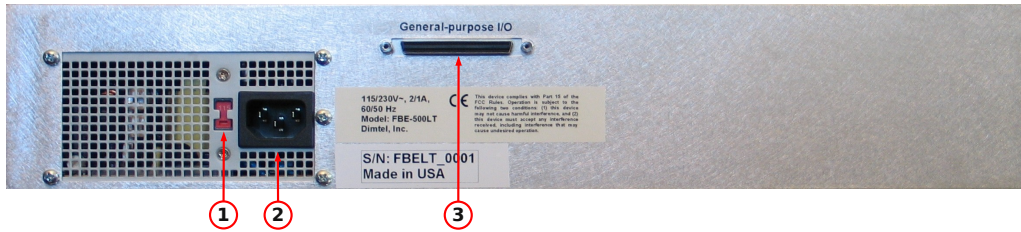

Figure 3: Rear panel features
WARNING: Before connecting power to the unit make sure the voltage selection switch (Fig. 3, item 1) is in the correct position (115 or 230 V).
1. Configure voltage selection switch (Fig. 3, item 1). Mains supply requirements for the FBE-476LT are listed in Table 4;
9. Using the supplied 68-pin GPIO cable connect the iGp/iGp12 interface (Fig. 3, item 3) to the GPIO connector on the iGp/iGp12;